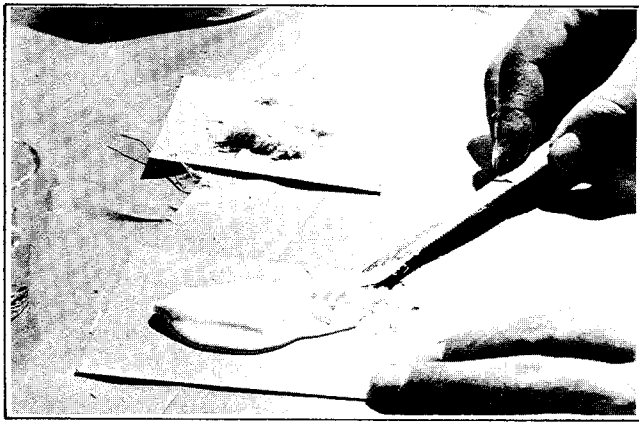

Figure 2-35. Mixing Gel Coat Glass Fibers
3. A small amount of gel coat, the same color as the finish should be placed in a small can lid or on a piece of cardboard. Use just enough to fill the damaged area. If damage has penetrated through to fiberglass material, an equal amount of fibers, which can be taken from glass mat and shredded into small fibers, should be mixed with the gel coat - using a putty knife or flat stick. Add three drops of catalyst per teaspoon of gel coat using an eye dropper. Be sure to mix the catalyst thoroughly for maximum working time. Maximum working time (pot life) will be about 15 to 20 minutes at which time it begins to "gel." See Figure 2-35.